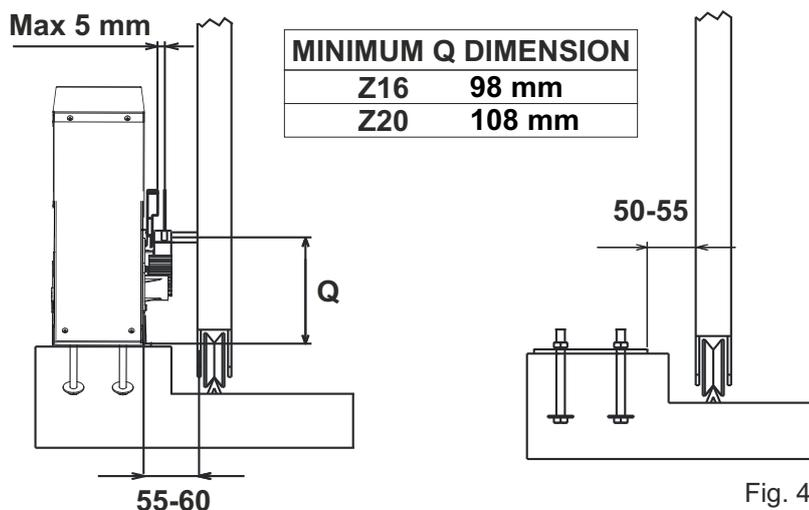

Fig. 4
2.3. Before concreting the plate, make sure that it is perfectly levelled and that the distance of 50-55 mm as shown in Fig. 4 is respected
4.1. Secure the gearmotor to the foundation plate by using the supplied screws (Fig. 6), then adjust its lateral position and height (Fig. 7) to comply with the dimensions mentioned in Fig. 4